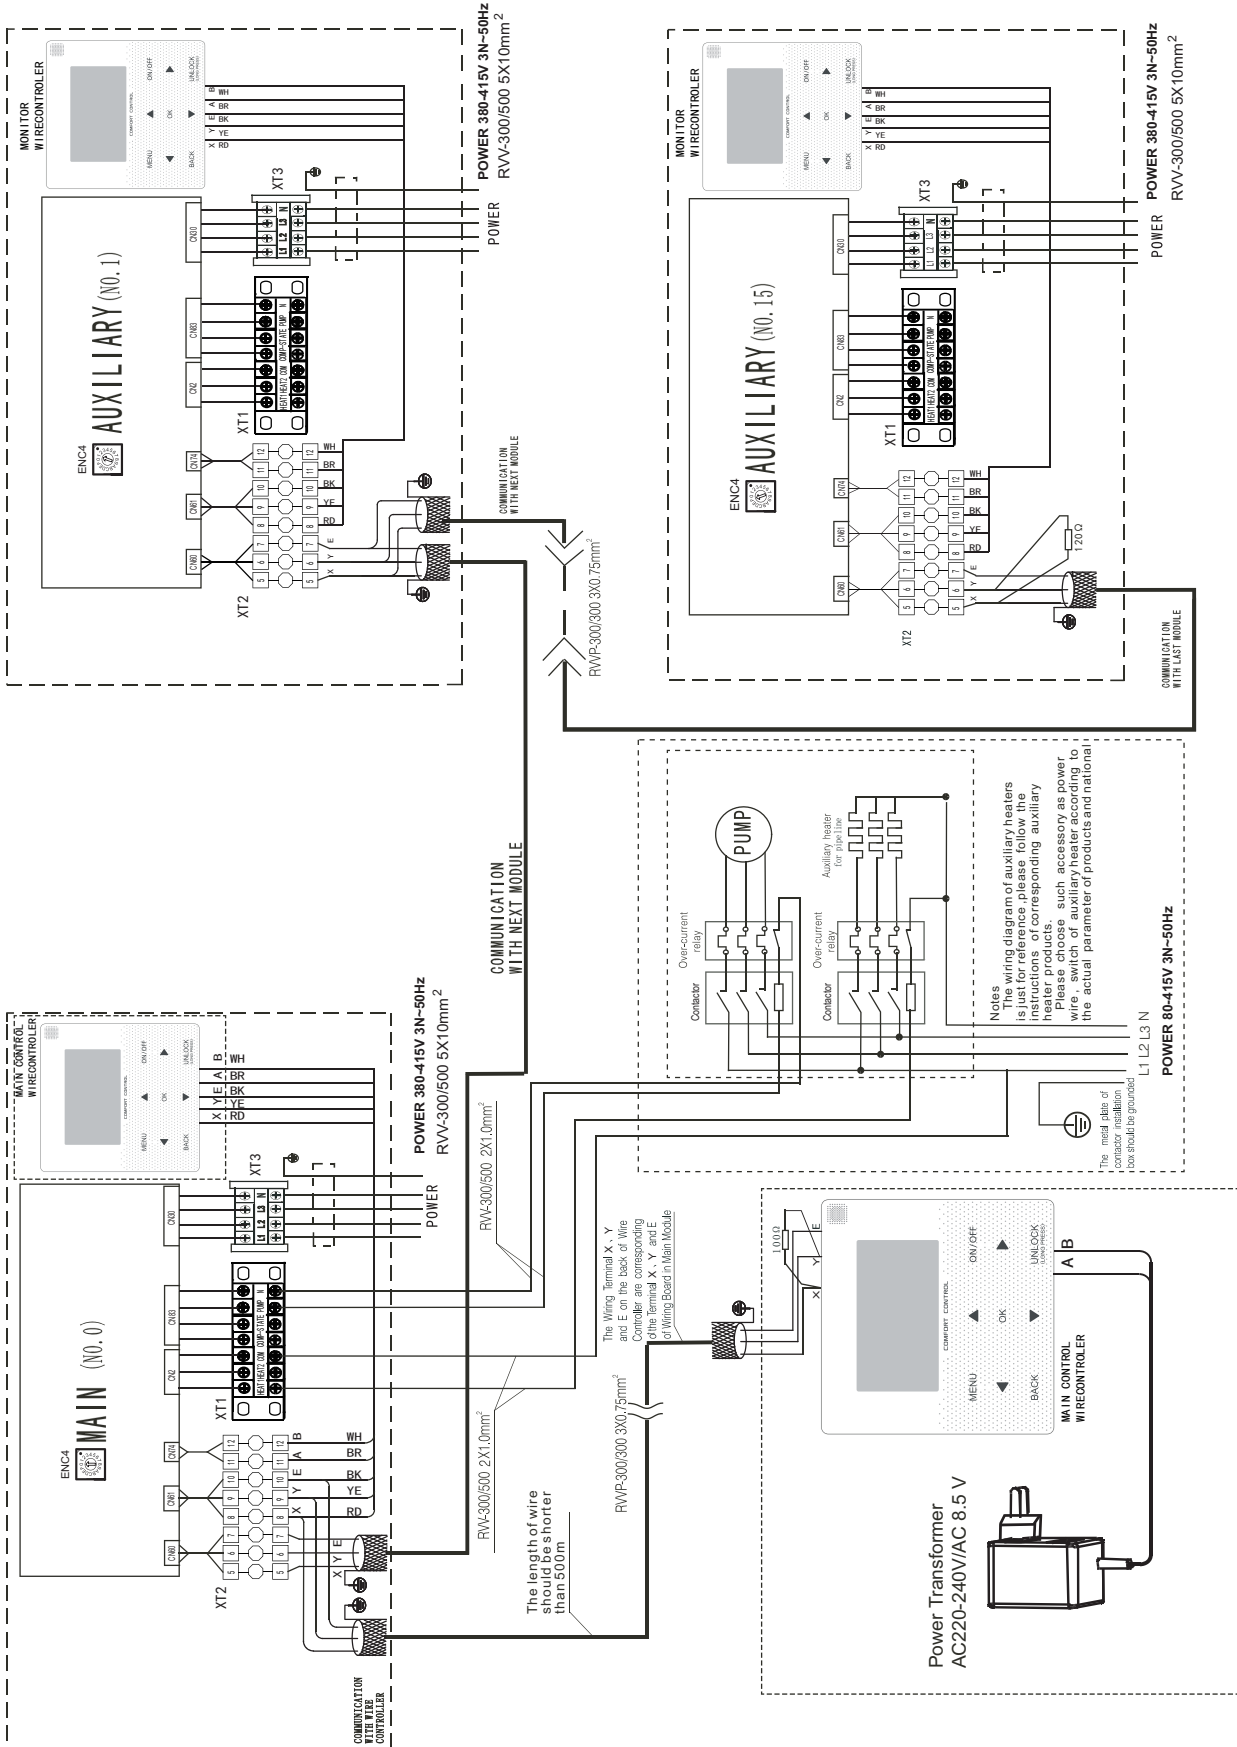

Fig. 8-18 Networking communication schematic of main unit and auxiliary unit for KEM-30 DRS4
c) Units must with a main unit controls (Please see Fig. 8-18 for the controls wiring diagram).